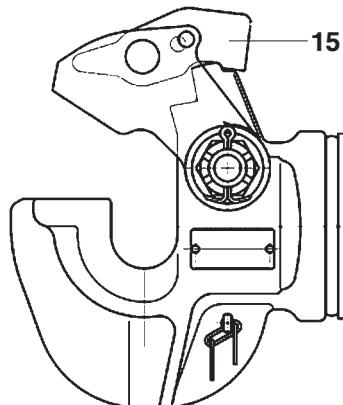

Fig. 6
- lift up the locking lever (13) at the handle (13.1) open the complete locking device (14) move the locking device to the rear until it latches (13) in the open position (15) (Fig. 6)